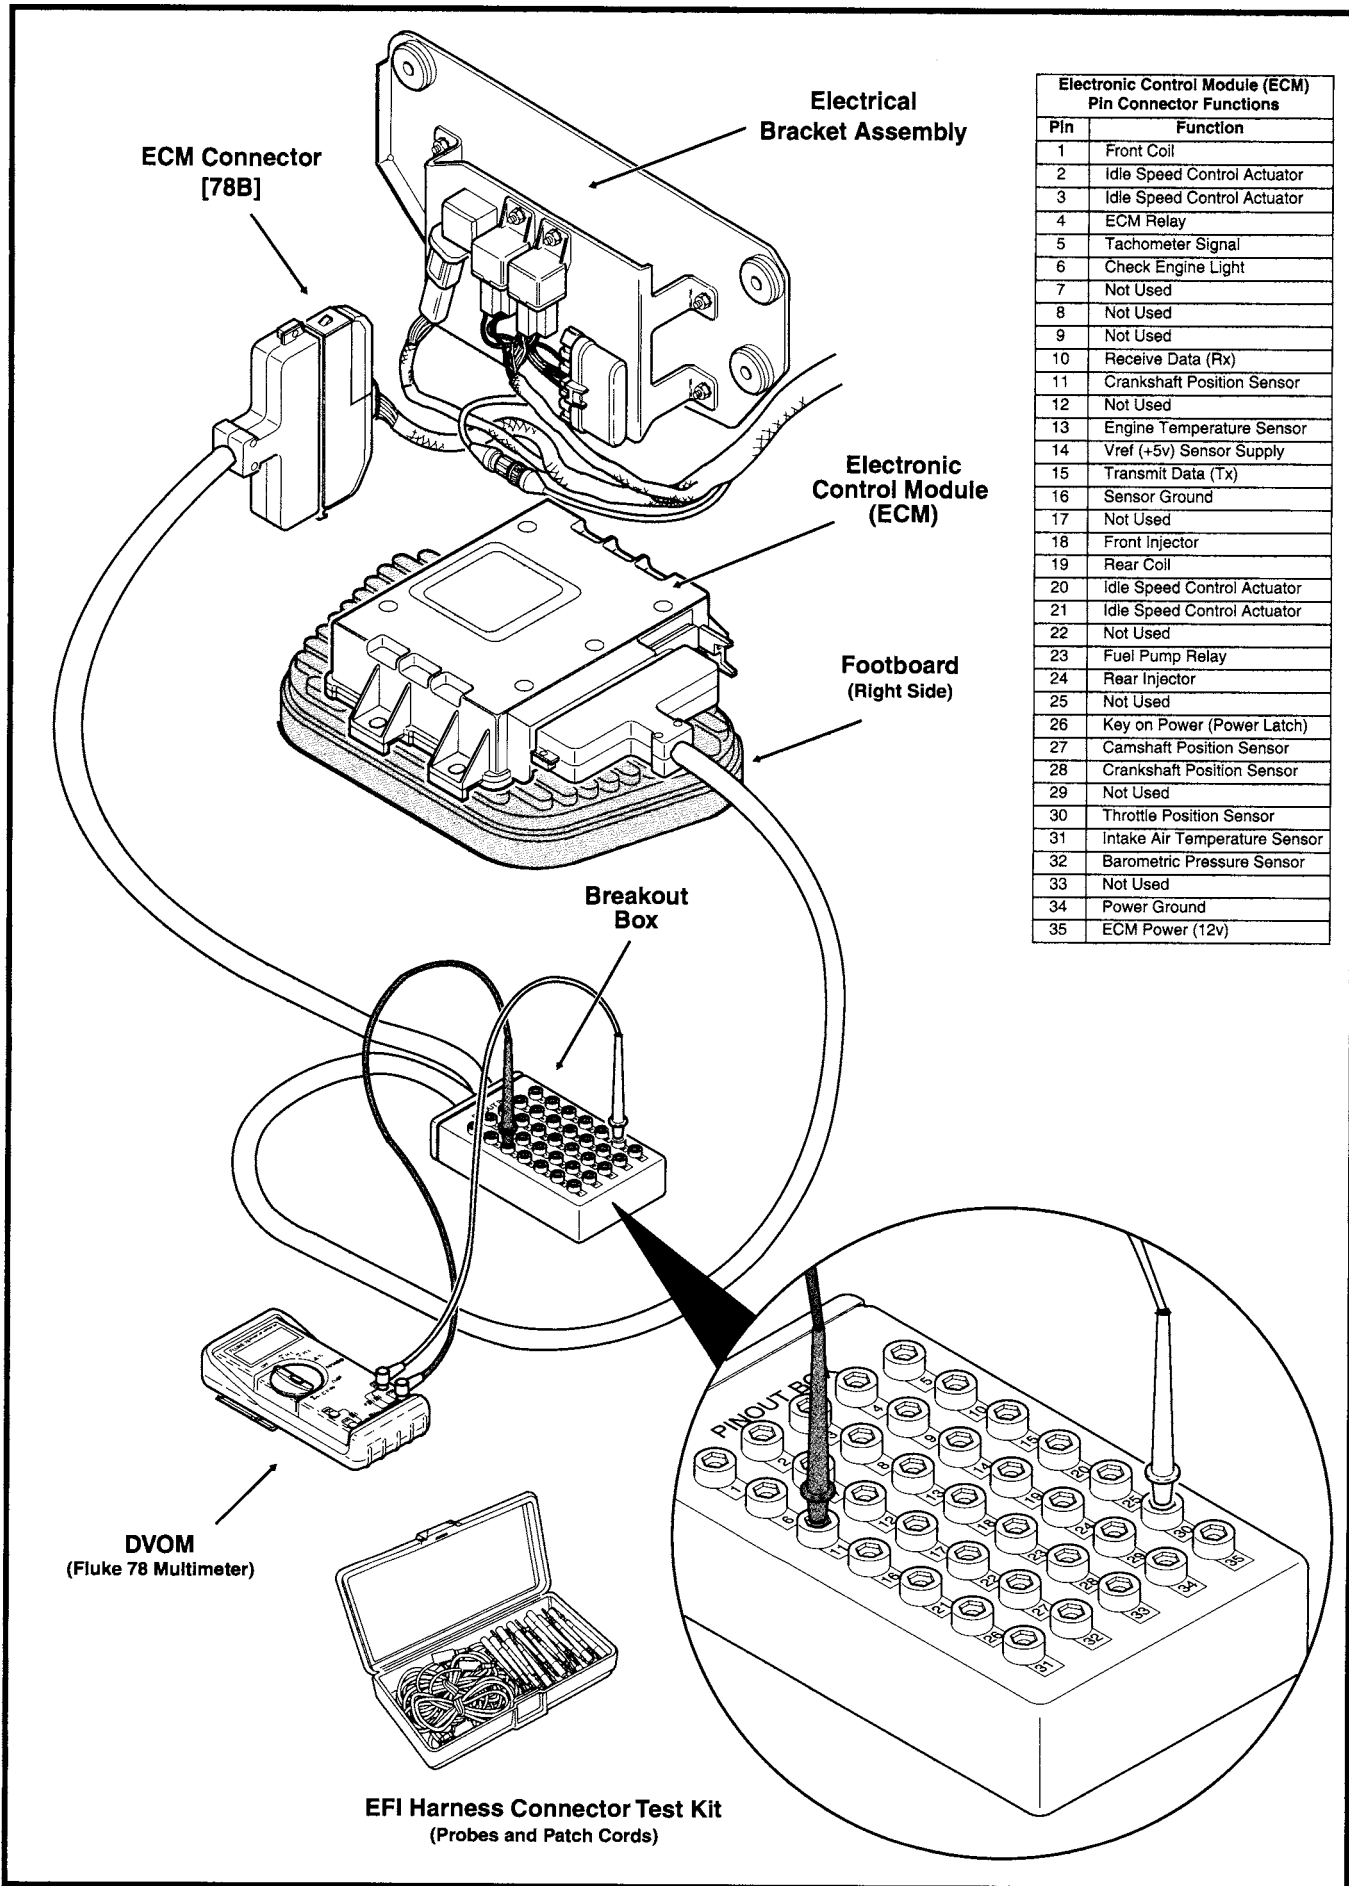

Figure 95. Breakout Box Installation
5. Place ECM on right side footboard. Connect Breakout Box between rear EFI wire harness and ECM. See Figure 95.